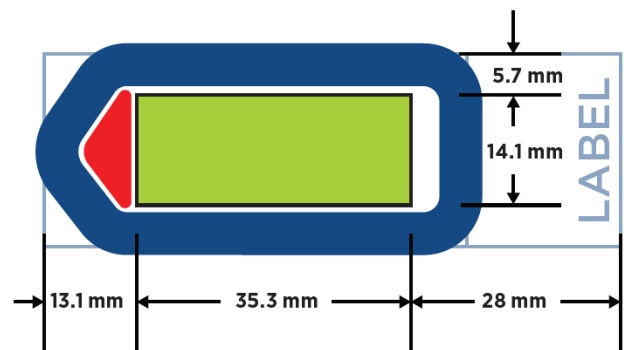

Figure 4: Slide dimensions. Measure from label edge of slide as reference point.
1. Tissue sections should be **5 µm** thick and mounted on **Superfrost Plus or BOND Plus slides**. Tissue sections must be placed in the **Scan Area** (shown in green in Figure 4) in the center of the slide and be **no larger than 35.3 mm long by 14.1 mm wide**. Mounted material should not overlap the slide gasket (shown in blue) or the tip calibration area (shown in red). If mounting multiple sections per slide, ensure that tissues are at least 2–3 mm apart and still fit within the Scan Area.